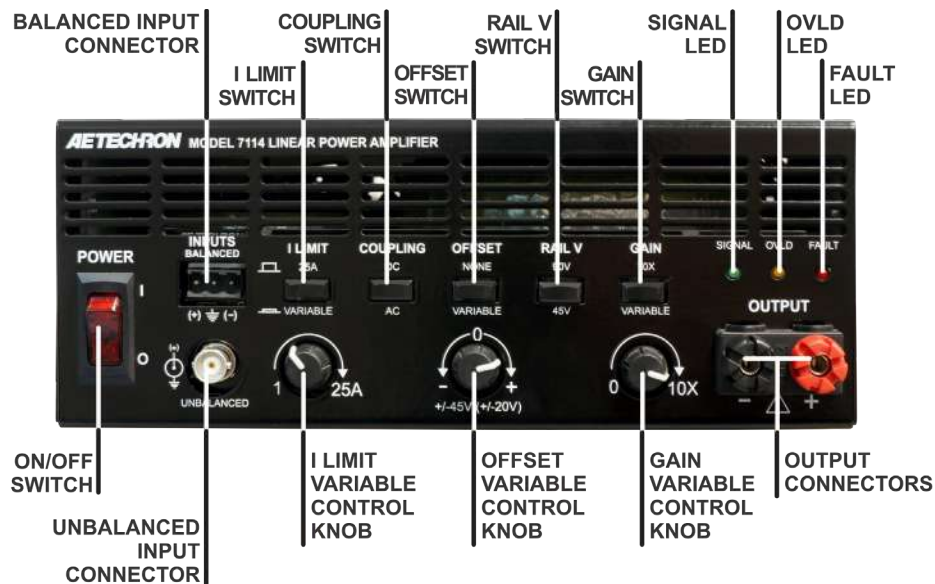

Figure 4.1 – Front Panel Controls, Indicators and Connectors
This section provides an overview of Front-Panel controls found on the 7114 amplifier. See **Figure 4.1** for control locations.
The lighted rocker POWER switch controls the AC mains power to the unit. Switch to the ON position (I) to turn the unit on. The switch's internal LED will light. Switch to the OFF position (O) to turn the unit off. See **Figure 4.1**.
Three status indicators are located on the front panel. See **Figure 4.1** for component locations.
This section provides an overview of the connectors found on the 7114 amplifier. Please refer to **Figures 4.1 and 4.2** for visual locations.